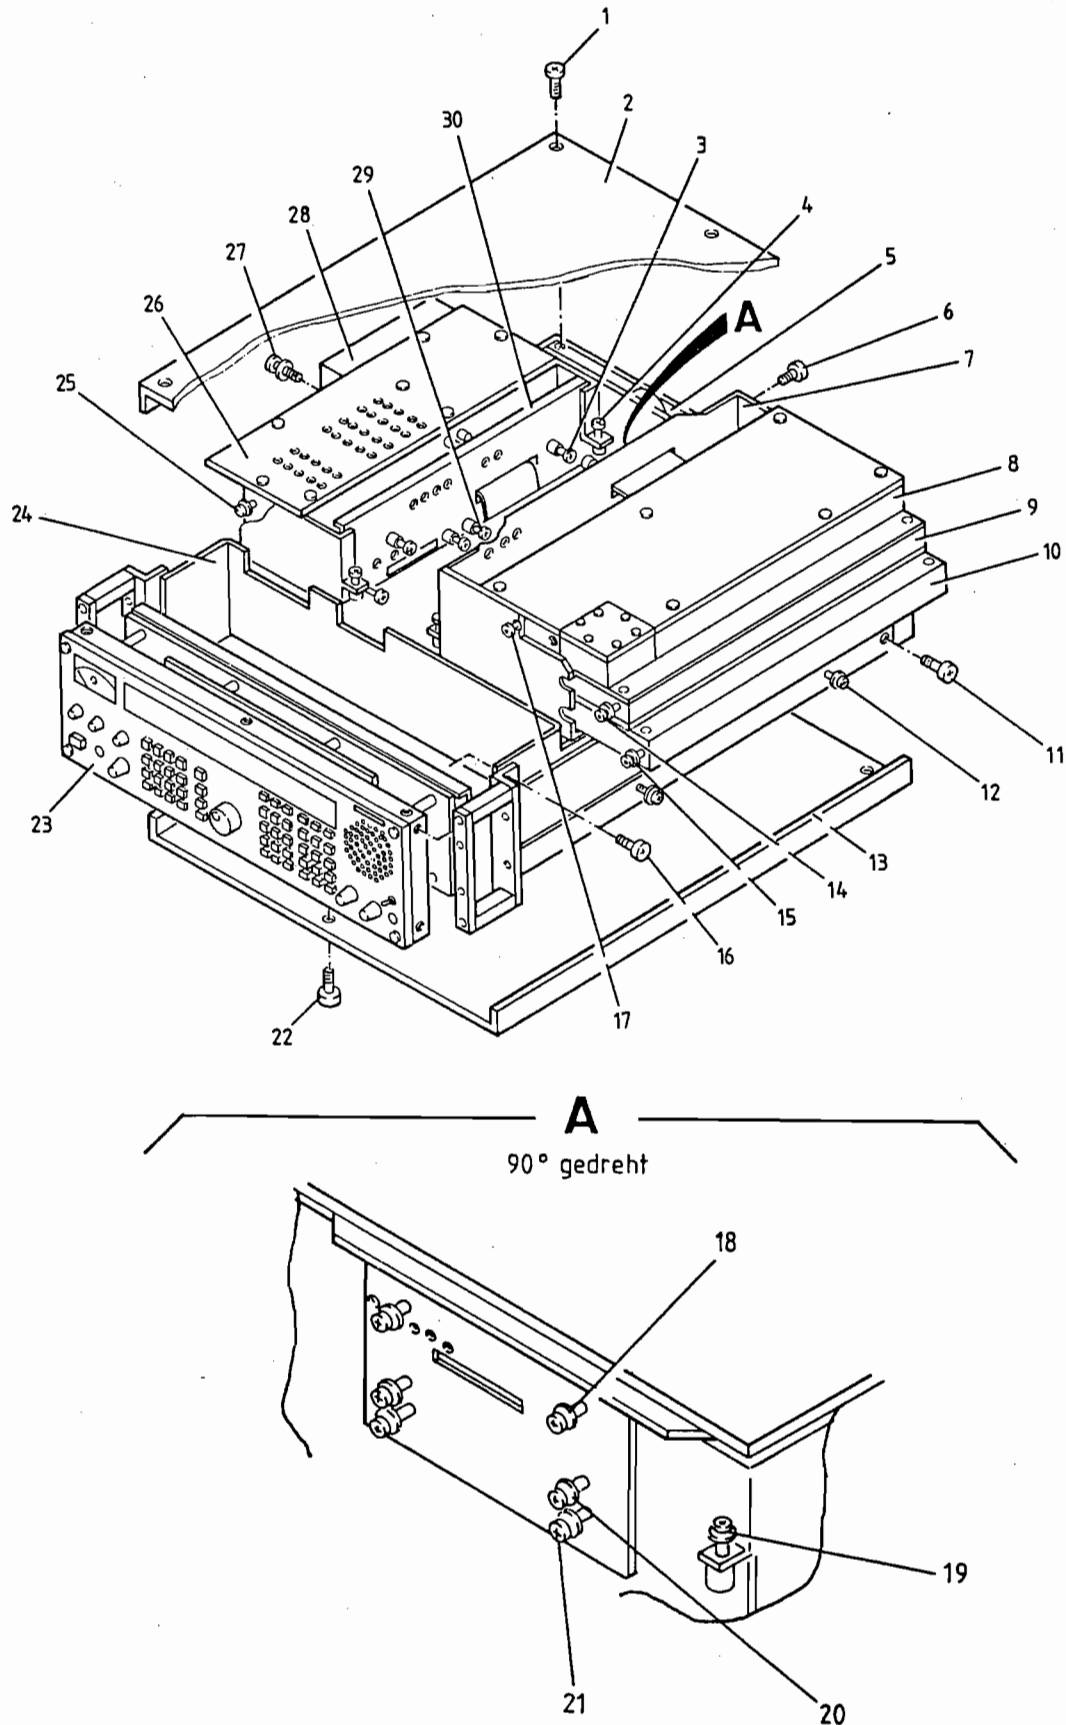

Fig. 6.2 Removal of Power Supply/EMC Filter IN 085P1
1. Undo six screws (1, Fig. 6.2) and remove top cover (2) of housing.
2. Undo four screws (22) and remove bottom cover (13) of housing.
2. Undo five screws (6 and 11, Fig. 6.2) and pull out power supply/EMC filter (5) towards rear.